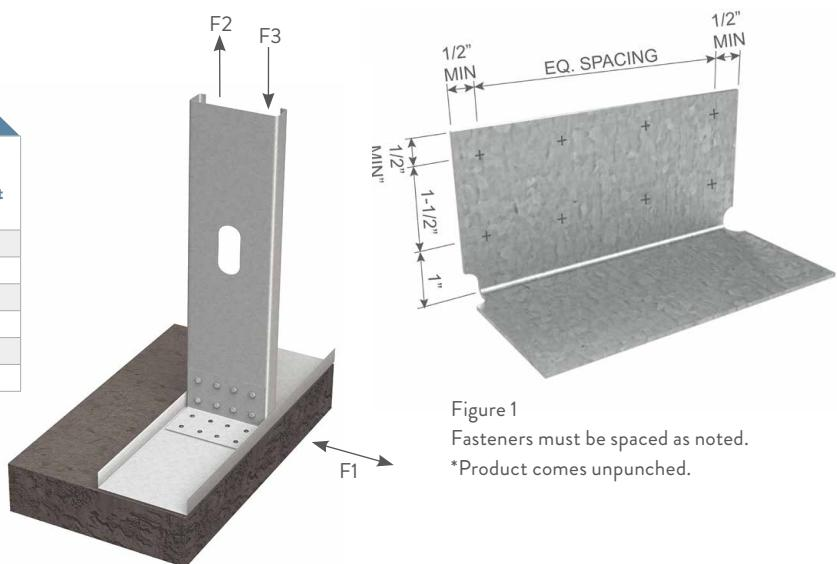

Figure 1
- 2 Screws shall be attached in a symmetric manner starting at the top and bottom moving to the center, see Figure 1 opposite page.